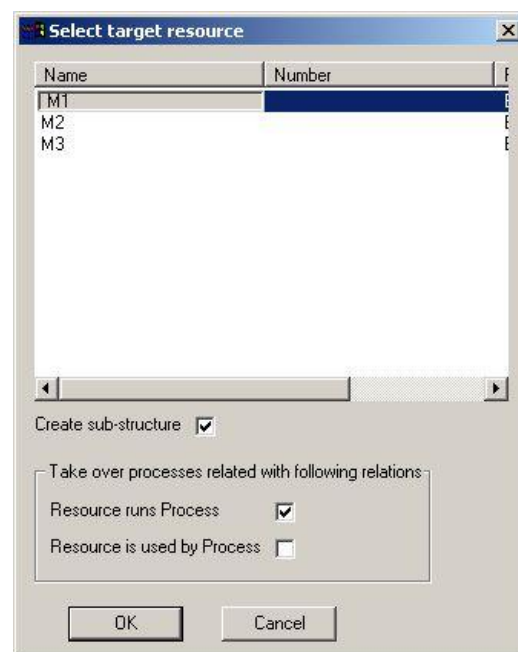

Figure 20: Dialog for the Integration of Resources
- 3) Select the required resource from the dialog (*Please refer to the Figure 20*) and enable the checkbox next to **Create sub-structure**. The Manufacturing Concept of the resource is created once you have selected this box.